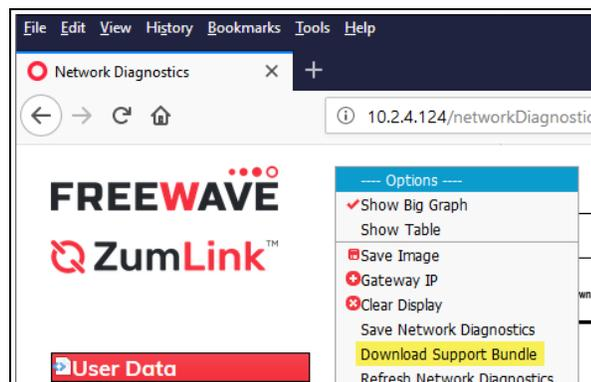

Figure 172: Options list box - Download Support Bundle option Selected
6. Click the **Options** list box arrow and select the **Download Support Bundle** option. Figure 172